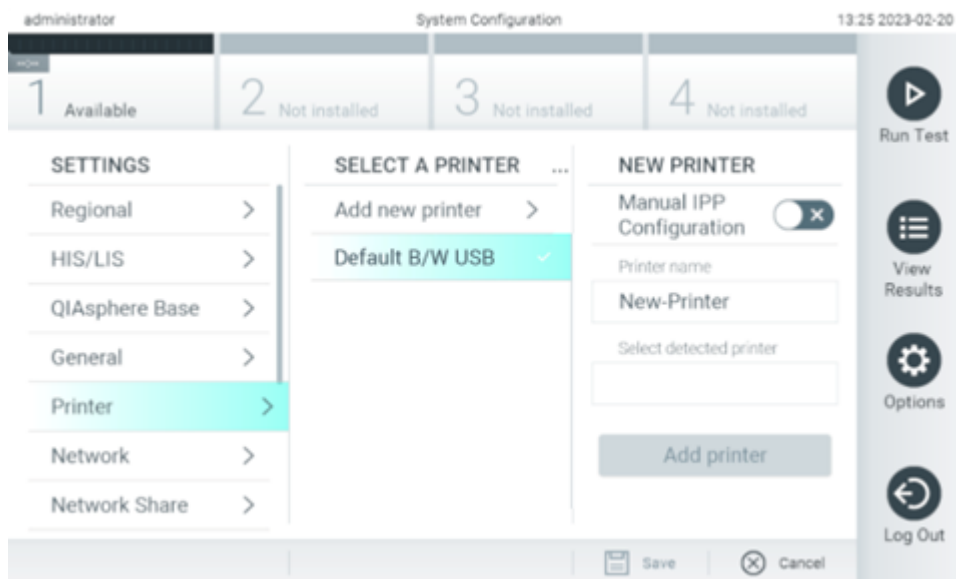

Figure 104. Printer installation with driver installation.
5. Click **Add Printer** (Figure 104).